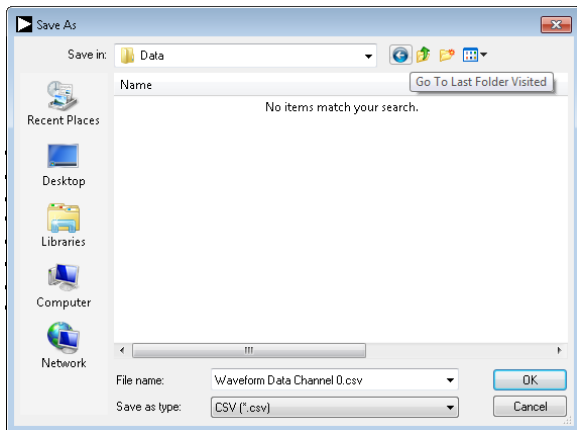
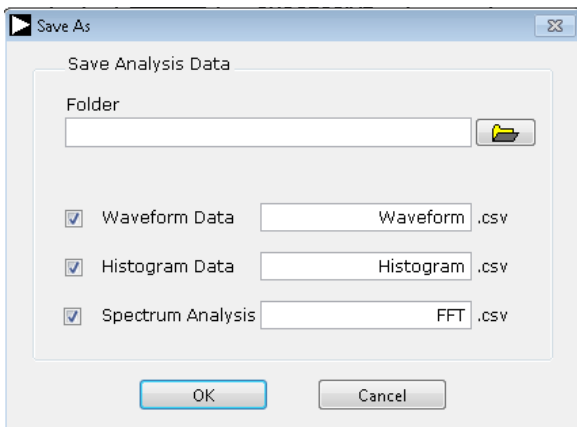

Figure 21. Save File Dialog Box
Figure 22. Save All Dialog Box
- The **Save All Analysis Data** option produces a pop-up box that allows you to save all of the analysis types to a specific folder location. For the individual saves, the **Save As** dialog box in Figure 21 opens. Save to an appropriate folder location. For the save all option, the dialog box in Figure 22 opens.